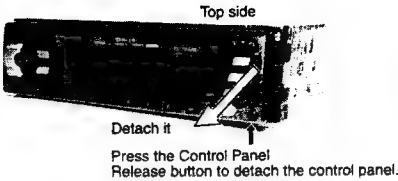

Fig. 1
- ◆ **Detaching the front panel unit** (See Fig. 1)